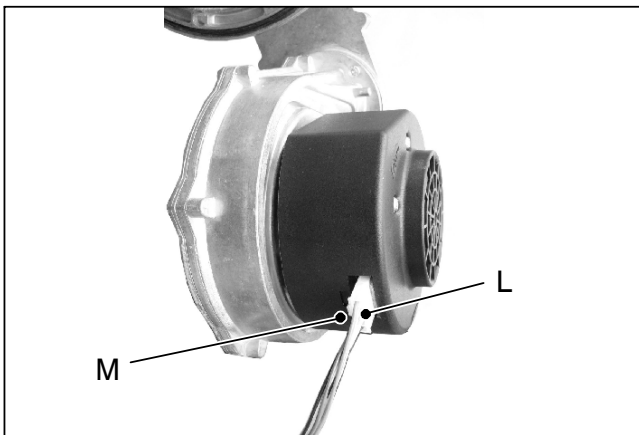

Fig. 8.7 (rear view of the fan)
- 9 Disconnect the connector of the fan L by pressing the plastic hook M placed on the rear side of the connector (Fig. 8.7).